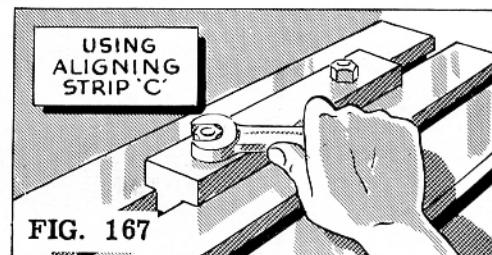

FIG. 167
3. Select two strips similar to the ones illustrated in Figures 167 and 168. On the under-surface of each of these there is a tongue which, when placed in the table slot, aligns the strip with the direction of the stroke.
5. Clean the bottom surface of the strip and with a fine file remove any burrs which may be on the base or the sides. If the strip illustrated in Fig. 167 is used, take the nuts and washers off the bolts.